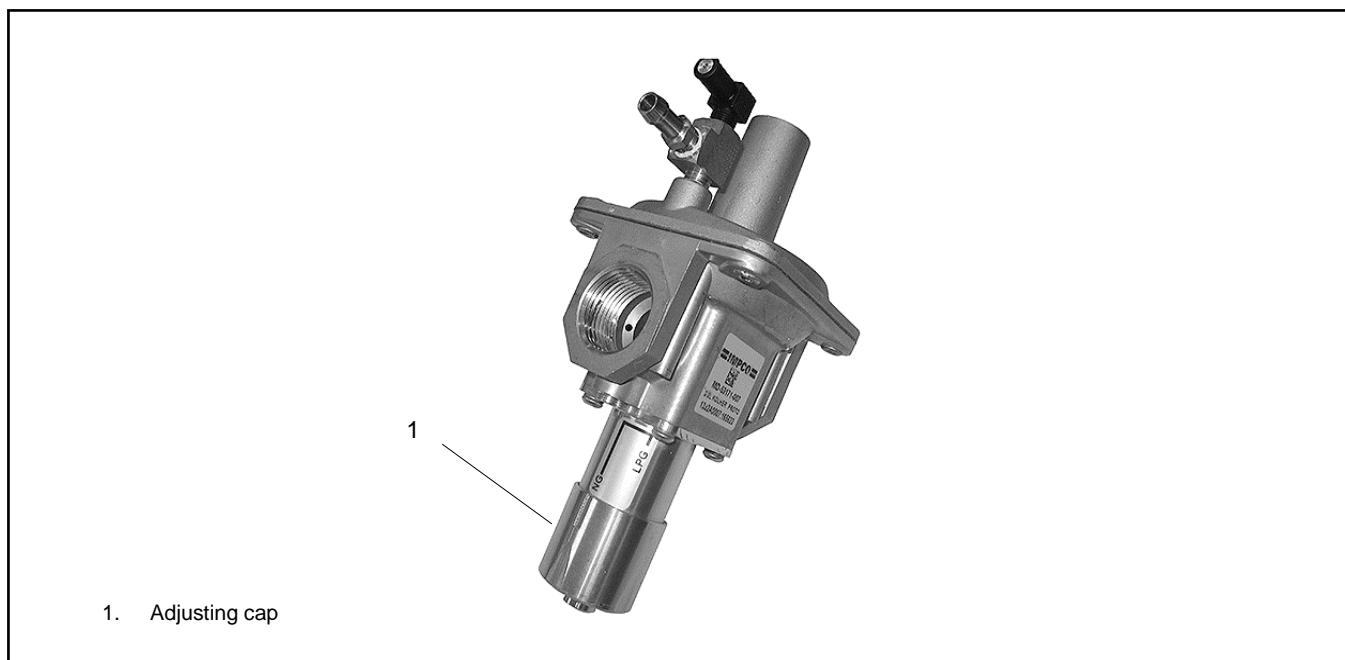

Figure 23 Regulator
1. Push the adjusting cap to its upper stop and rotate clockwise, release upward pressure, and lock into place. See Figure 23.
2. Push up on the adjusting cap and rotate counterclockwise. Release upward pressure, and lock into place. See Figure 23.